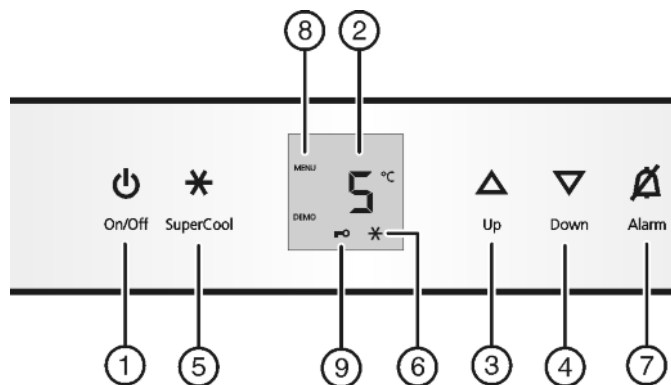

Fig. 2
- ▶ Press On/Off button *Fig. 2 (1)*.
- ▶ Activate setting mode: Press the SuperCool button *Fig. 2 (5)* for around 5 seconds.
- ▶ Briefly press the SuperCool button *Fig. 2 (5)* to confirm.
- ▶ to activate the child lock, briefly press the SuperCool button *Fig. 2 (5)*.
- ▷ The child lock symbol *Fig. 2 (9)* shines. **c** flashes in the display.
- ▶ to deactivate the child lock, briefly press the SuperCool button *Fig. 2 (5)*.
- ▷ The child lock symbol *Fig. 2 (9)* goes out. **c** flashes in the display.
- ▶ To deactivate the set-up mode: press On/Off button *Fig. 2 (1)*.
- ▶ Press alarm button *Fig. 2 (7)*.
- ▶ For a higher temperature setting: press Up button *Fig. 2 (3)*.
- ▶ For a lower temperature setting: press Down button *Fig. 2 (4)*.
- ▶ Briefly press SuperCool button *Fig. 2 (5)*.
- ▷ The SuperCool *Fig. 2 (6)* symbol lights up in the display.
- ▷ The SuperCool symbol *Fig. 2 (6)* goes out in the display.